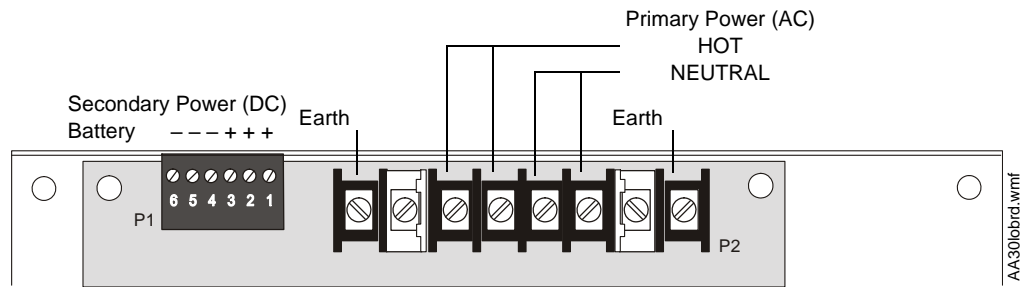
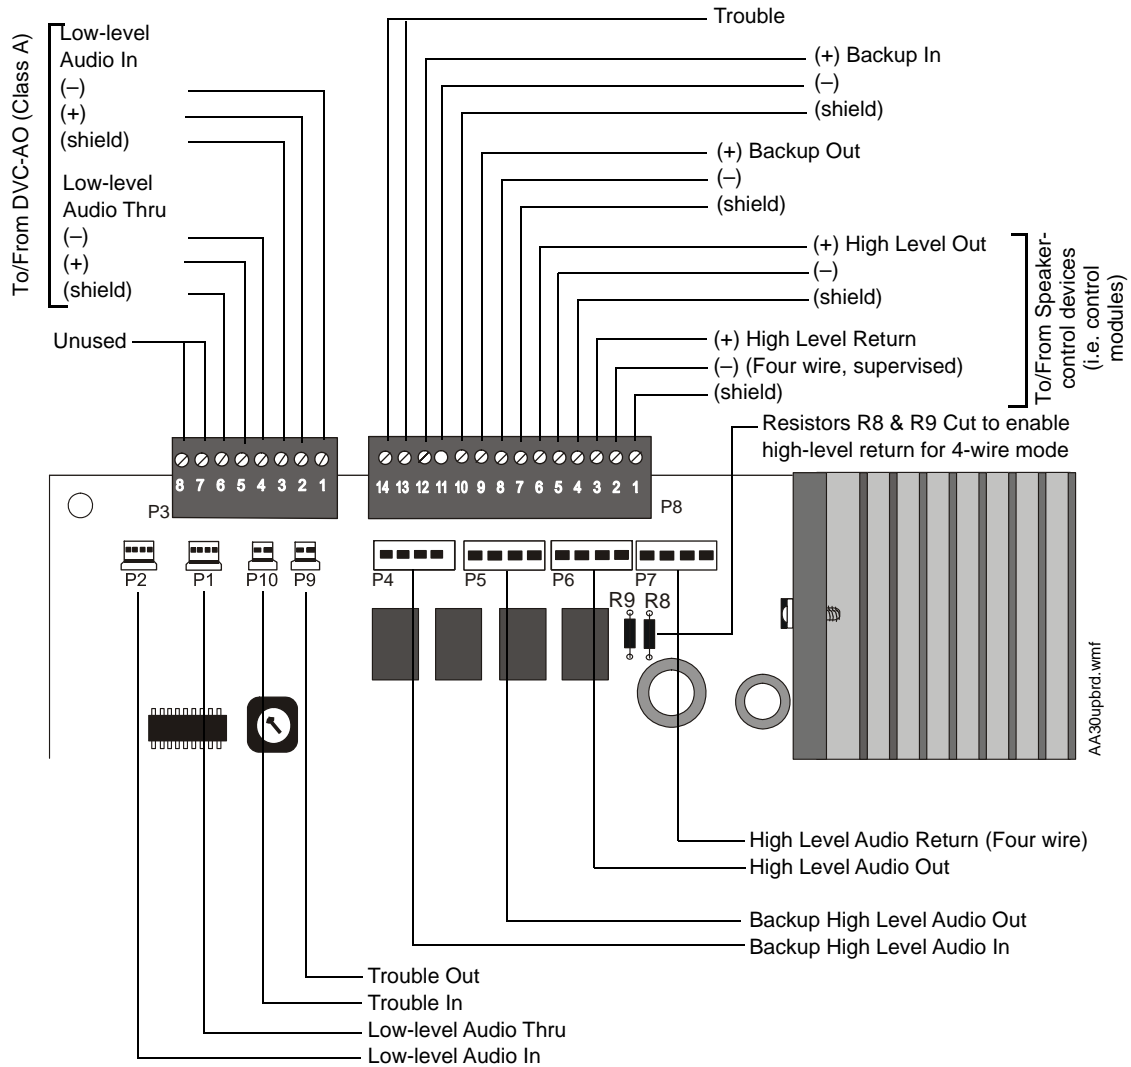

Figure 3.4 AA-30 Lower Board Connections (nonpower-limited)
Figure 3.5 AA-30 Upper Board Connections (power-limited)
Figure 3.4 and Figure 3.5 show terminal connections to an AA-30. See Section 3.8 “Wiring Multiple Audio Amplifiers” for applications using more than one amplifier.
- Cut resistors R8 and R9 on the AA-30 (Figure 3.5), or
- To use high-level audio (25 Vrms output) with four-wire supervision, cut resistors R8 and R9 on the AA-30 (Figure 3.5).